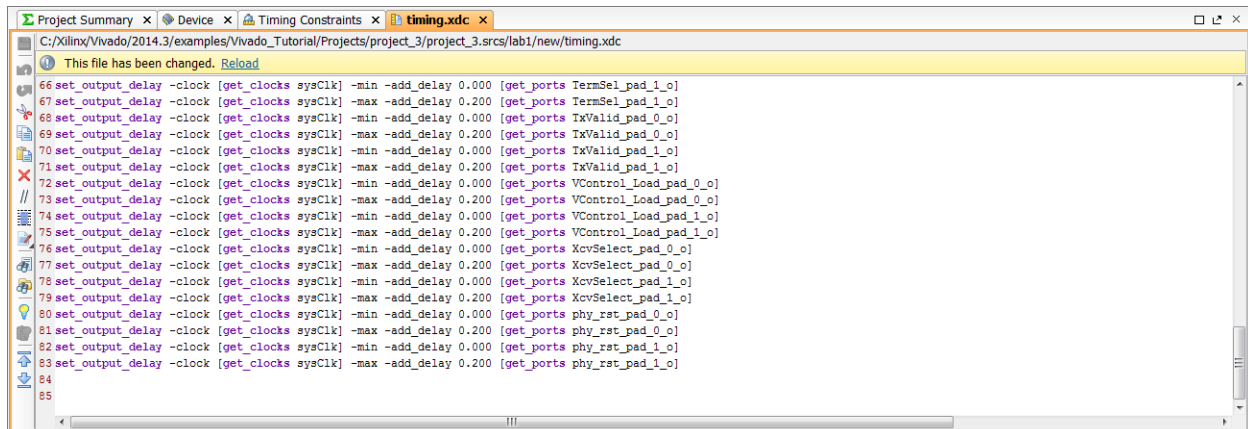

Figure 20: timing.xdc Tab
- Click the **Reload** banner in the **timing.xdc** tab to reload the constraints file from disk. Notice that the false path and multi-cycle paths are now visible in the text file, as shown in Figure 20.